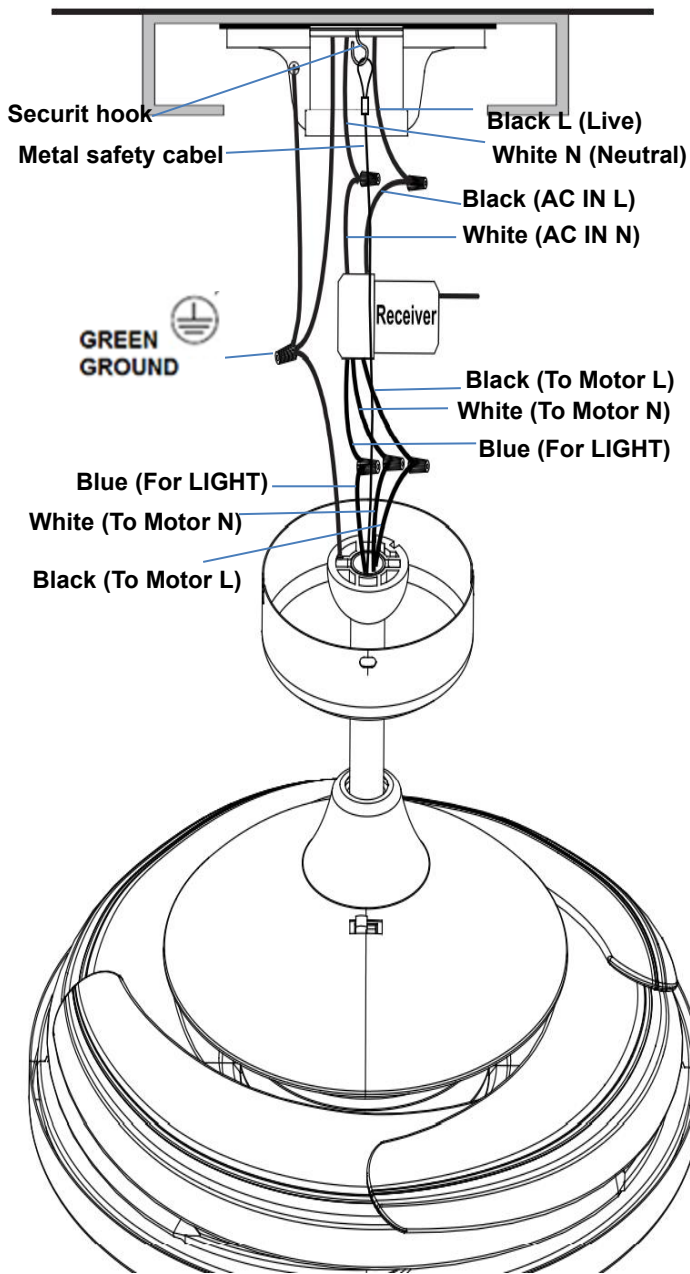
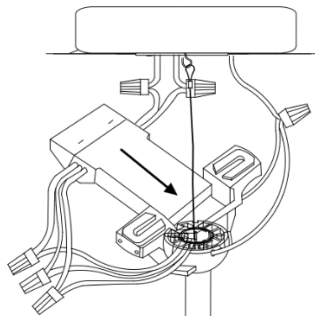

Fig. 11a
Fig. 11b
7. Pull the metal safety cable on the security hook, tight the safety cable (Fig.11a & Fig.11b)